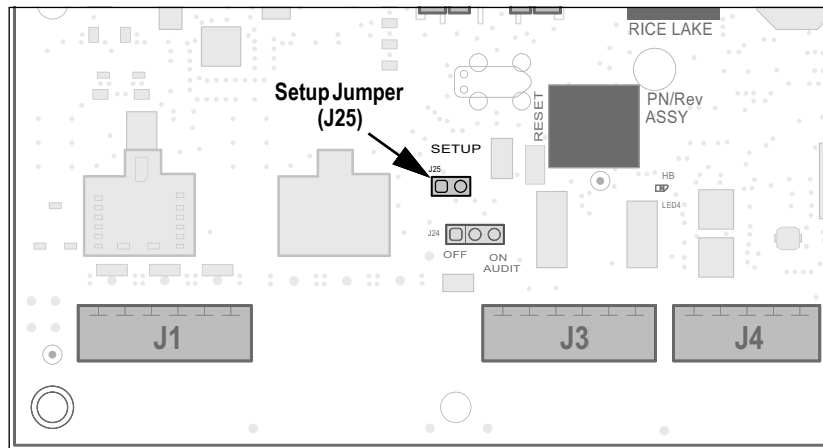

Figure 4-1. Setup Jumper Location on CPU Board
1. Access setup mode via the setup jumper (Figure 4-1 on page 27). **CONF** displays.